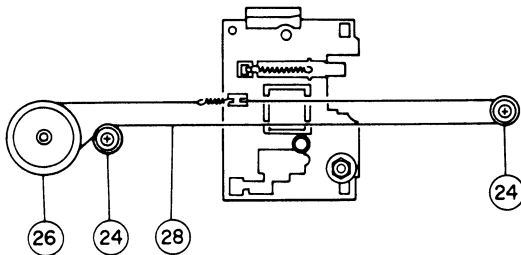

Figure 5
2. Remove the string (28) from the pulley (24) and then remove it from the worm wheel gear (26) as shown in Figure 5.